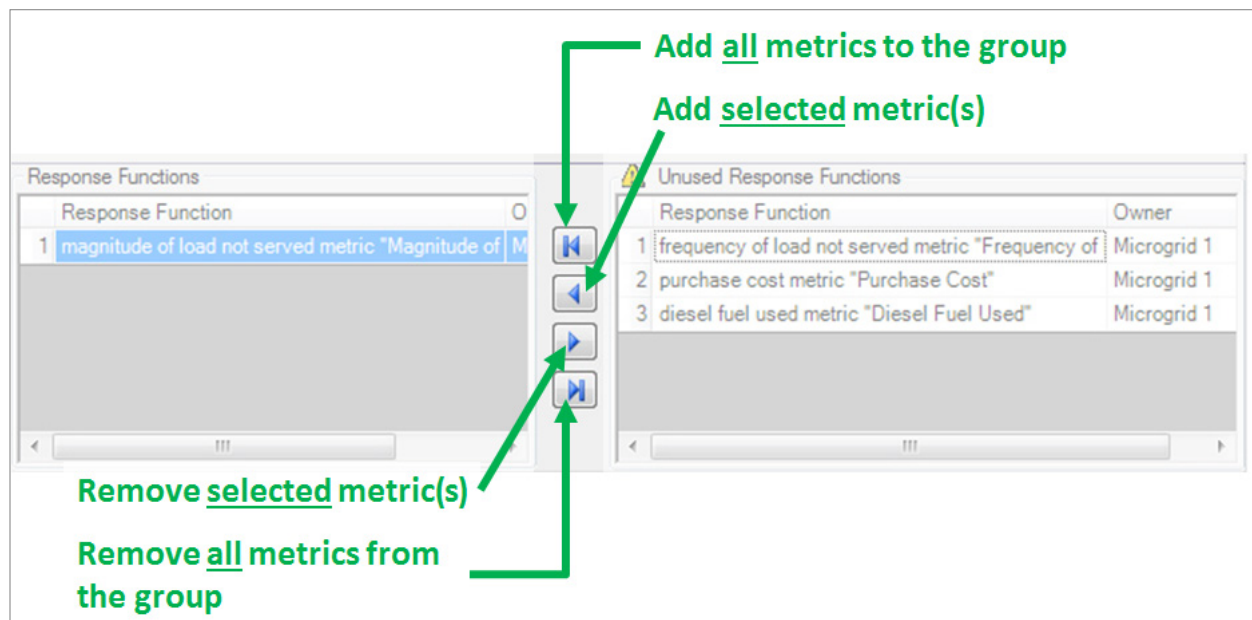

Figure 39. Adding and removing metrics from Response Function Groups.
- d. Click the left arrow button to add the metric to the group (Figure 39).
4. Click the right arrow button to remove the metric from the group (Figure 39).